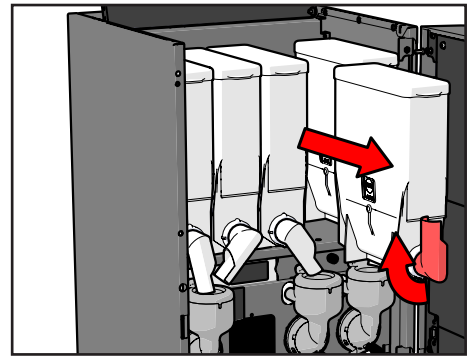

Figure 7.
9. Remove the instant canisters from the machine with the spouts facing upwards (see Figure 7).